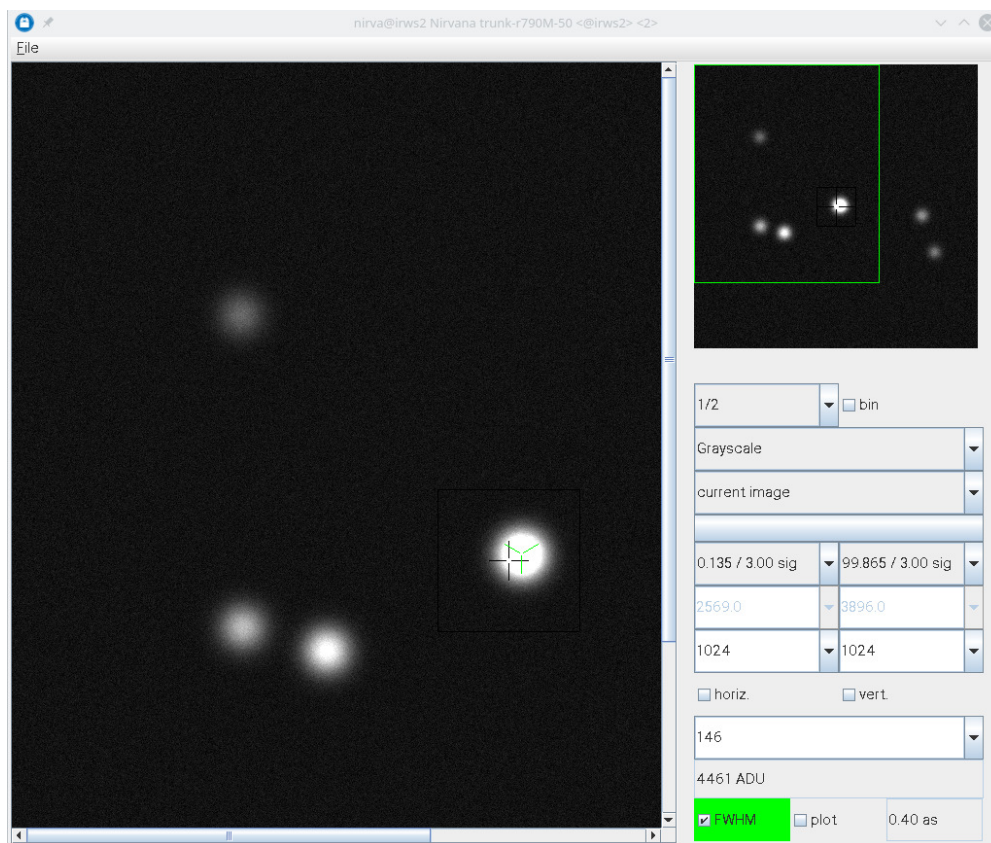

Figure 16: Current Exposure Display. Right after GEIRS startup this shows the white-on-blue logo of the MPIA.
**4.3.3.1 Introduction** The display tool, Figure 16 works similar to `ds9` or `fv` tools with some display options and similar statistics. The GEIRS display, however, is completely unaware of world coordinate systems standards. Some online data processing techniques are available. These interactive operations (magnifying, scrolling forward and backward through the frames, setting ADU cut levels,...) affect only the displayed data but do not manipulate the raw data that have been or will be saved to disk.
to the `QueueFiles` shell script (Sec. 3.3). As an alternative to using the `type` command one may use the full path of `xpaset` or make sure by symbolic links that the `path` contains the executable. Note that `ds9` sometimes needs to read `ds9-64` depending on how this was compiled. With that setup, opening the GUI in Figure 16 may be superfluous.
The menu on the right hand side of Figure 16 has a number of fields, which are described from top to bottom in the subsequent paragraphs.